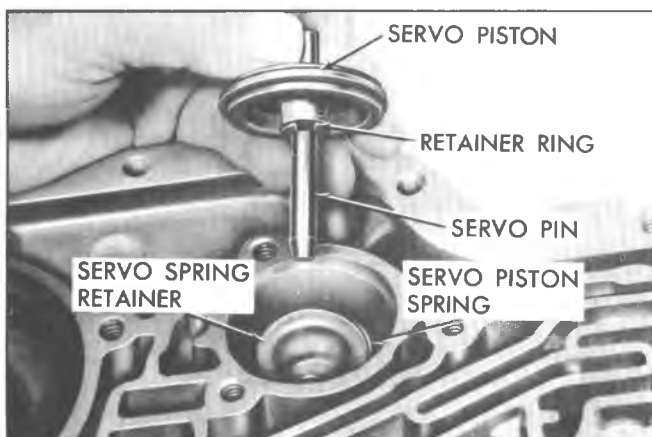

Fig. 141T--Installing Front Servo Piston, Washer, and Pin
9. Install seal ring on servo piston, if removed, and install on servo pin with flat side of piston positioned toward bottom pan. Figure 141T.